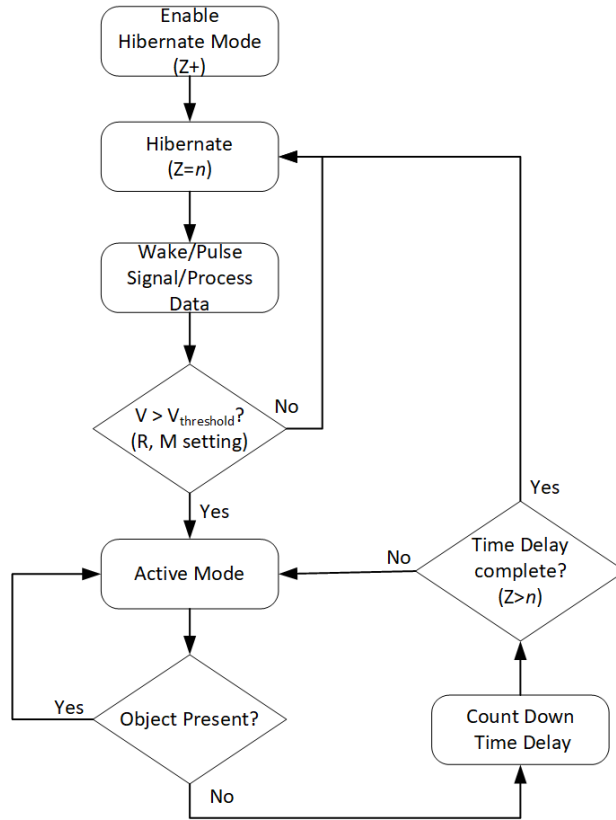

Figure 9. Hibernate Mode Operation
**Hibernate Mode (OPS243 only)** – enables very low power (~100-250mW) duty cycle mode for battery-based applications. In Hibernate mode, the sensor shuts down internal power to the processor and RF for a time period set by the Z=n command. After time *n*, the sensor powers up, pulses a signal, processes the data and makes that data available. If filter values are set on speed (R>, R<), signal magnitude (M>, M<), or direction (R+, R-), the sensor will check to see if the processed data meets any of the threshold values and if so, will stay in active mode. It will continue in this manner until data does not meet the threshold settings at which time the sensor will stay active for Z>*n* seconds before entering back into Hibernate mode. Figure 9 shows graphically this process.